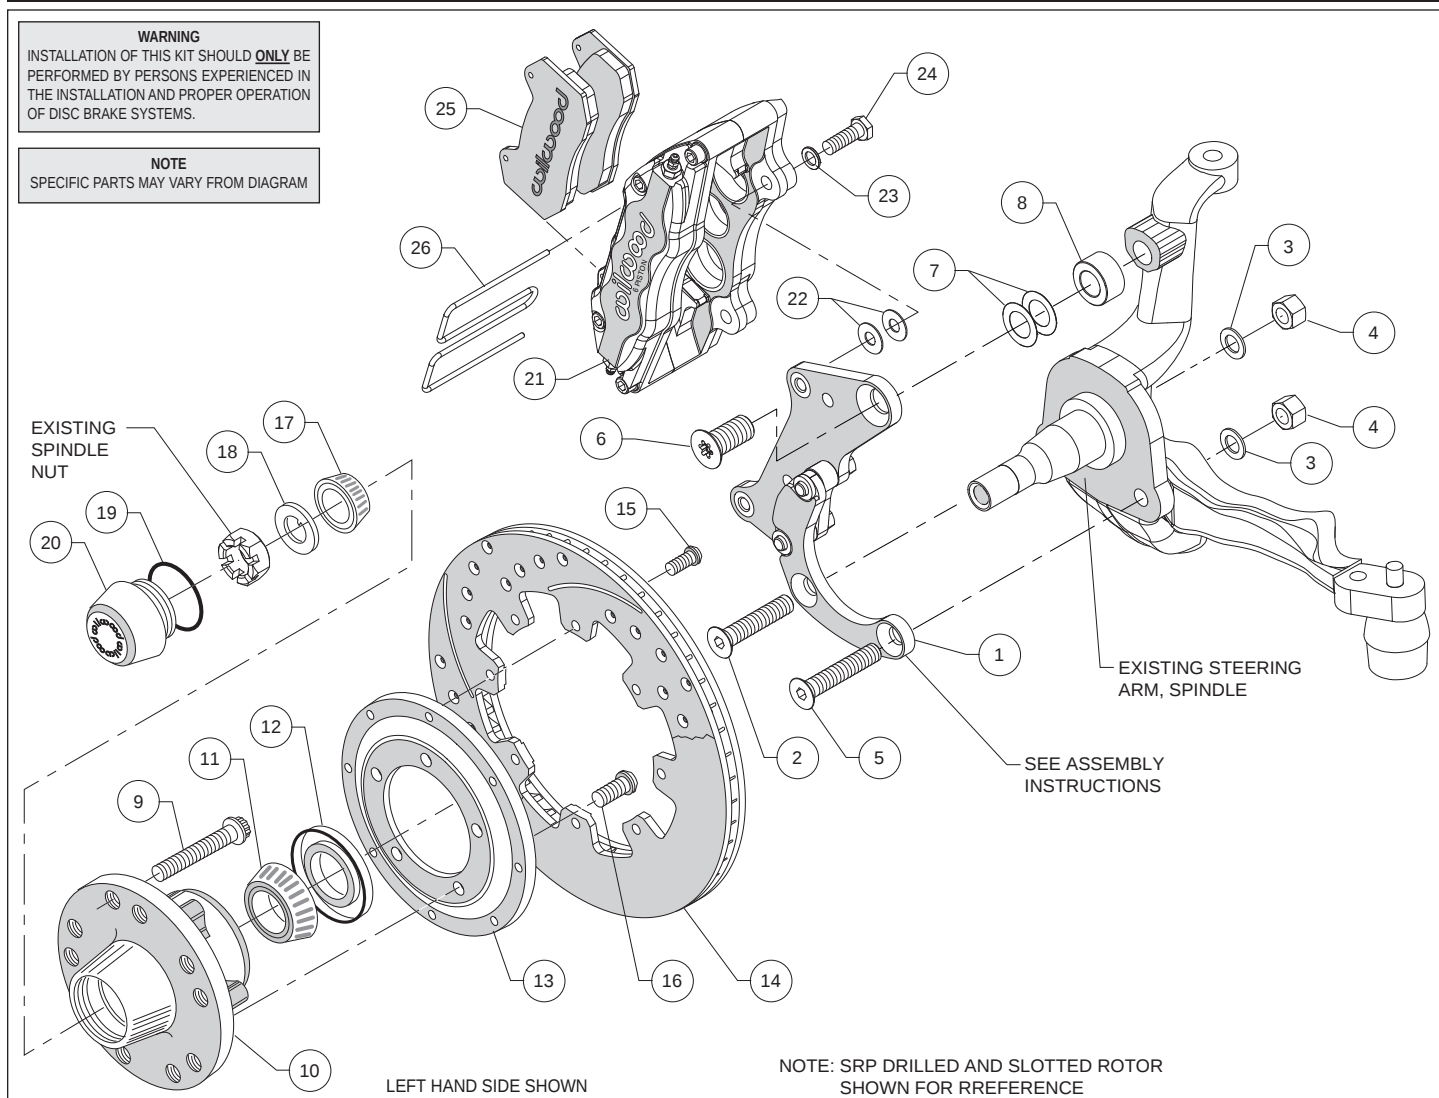
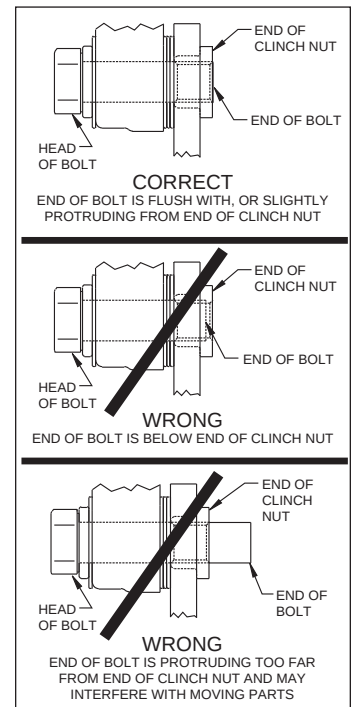

Figure 1. Typical Installation Configuration
Figure 3. Clinch Nut Engagement Diagram
Assembly Instructions (numbers in parenthesis refer to the parts list and Figure 1 on the preceding pages): **CAUTION:** All mounting bolts must fully engage clinch nuts. Be sure to check that all bolts are either flush or protruding through flanged side of clinch nut after shimming, Figure 3.
•The caliper mounting bracket (1) has been assembled at the factory for alignment purposes. Loosen the two bolts that secure the brackets together so that the bolts are hand tight only, this will enable the bracket assembly to be adjusted to accommodate various spindle tolerances during assembly. Align bracket with the two lower holes on the spindle face and attach using bolts (2 and 5), washers (3), and secure using nuts (4), as shown in Figure 1 and Photo 1. Install bolt (6) through top of bracket while placing spacer (8), Impala and Corvette disc spindles [(drum spindles do not require spacer (8)], and shims (7) between bracket and spindle, Figure 1. Initially place two .010" thick shims (7) on the top bolt between the bracket and upright, Figure 1. Temporarily tighten the mounting bolts. Ensure that the flanged heads of the clinch nuts in the bracket are facing outboard, Photo 1. **NOTE:** The bracket must fit squarely against the mounting points on the spindle and be parallel with the mounting face. If not, add or subtract shims (7) on the top bolt between the bracket and spacer. Inspect for interference from casting irregularities, machining ridges, burrs, etc. Remove lower bolts one at a time, apply red *Loctite*® 271 to the threads, and torque nuts to 77 ft-lb. Remove the upper bolt (6), apply red *Loctite*® 271 to threads, and torque to 140 ft-lb. Remove one at a time the bolts that secure the bracket assembly to each other, apply red *Loctite*® 271 to the threads and torque to 40 ft-lb.
- Install the grease seal (12) by pressing into the backside of the hub (10), flush with the end of the hub, Photo 3.
- Orient the rotor (14) and the rotor adapter (13) as shown in Figure 1 and Photo 4. Attach the rotor to the adapter using bolts (15). Using an alternating sequence, apply red *Loctite*® 271 to the threads, and torque to 25 ft-lb.
- Mount the adapter/rotor assembly (13/14) to the hub (10) using bolts (16), as shown in Figure 1 and Photo 5. Using an alternating sequence, apply red *Loctite*® 271 to the threads, and torque to 55 ft-lb.
- Pack the small outer bearing cone (17) with high temperature disc brake bearing grease and install into hub (10). Slide the hub/rotor assembly onto the spindle. Secure using spindle washer (18) and spindle nut, Photo 6. Adjust bearings per OEM specifications. Install saved OEM nut lock (if any) and a new cotter pin (not supplied).
- Screw dust cap (20) into hub (10), Photo 7. Friction created by the o-ring (19) on the dust cap keeps it from unscrewing. **NOTE:** The O.D. of the existing OEM spindle washer may be larger than the I.D. of the dust cap not allowing it to seat against the hub face. Therefore, use the spindle washer (18) supplied with the kit instead of the OEM washer.
- NOTE:** Please reference the caution statement at the beginning of the assembly instructions. This kit contains distinct right and left hand calipers that must be mounted in a specific direction, as described below. Mount the caliper (21) onto the caliper mounting bracket (1) using bolts (24) and washers (23), as shown in Figure 1. Initially place two .035" thick shims (22) on each bolt between the caliper and the bracket, Photo 8. Ensure that the caliper is mounted so the largest pistons are at the rotor exit end of the caliper, in relation to the direction of rotor rotation. Temporarily tighten the mounting bolts and view the rotor (14) through the top opening of the caliper. The rotor should be centered in the caliper, Photo 9. If not, adjust by adding or subtracting shims between the bracket and the caliper. Always use the same amount of shims on each of the two mounting bolts. **NOTE:** The end of each bolt must be flush with or slightly protruding from the head of the clinch nut, as shown in Figure 3. If necessary place spare shims between washer (23) and caliper mounting ear to achieve the proper clinch nut engagement. Once the caliper alignment and clinch nut engagement are correct, remove the bolts one at a time, apply red *Loctite*® 271 to bolt threads, and torque to 40 ft-lb.
- Install the disc brake pads (25) into the caliper, with the friction material facing the rotor (14), and secure in place using the pad clip retainer (26), Photo 10.